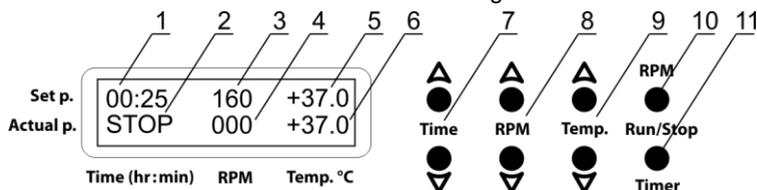

Figure 1. Control panel
- 5.3 The display turns on. The upper line shows the previously set time in hours and minutes (fig. 1/1), speed in RPM (fig. 1/3) and temperature in °C (fig. 1/5). The lower line shows current readings of the same parameters: the timer (indication STOP, fig. 1/2), speed (fig. 1/4) and chamber temperature (fig. 1/6) that automatically starts rising according to the set temperature.
- 5.4.1 **Setting time (Time).** Using the ▲ and ▼ **Time** keys (fig. 1/7) set the required working time interval in hours and minutes (increment 1 min).
- 5.4.2 **Setting speed (RPM/Shaker).** Using the ▲ and ▼ **RPM** keys (fig. 1/8) set the required shaking intensity in revolutions per minute (increment 10 rpm).
- 5.4.3 **Setting temperature (Temp.°C).** Using the ▲ and ▼ **Temp.** keys (fig. 1/9) set the required temperature (increment 0.1°C). The chamber heating starts automatically.
Caution! The chamber heating can only be stopped manually by reducing the temperature with the ▼ **Temp.** key (fig. 1/9) until the OFF indication appears in the in upper line of the **Temp.°C** display segment.
5.5.2 Press the **RPM Run/Stop** key (fig. 1/10, called the **Shaker Run/Stop** key on **ES-20/60**). The platform starts rotating and the timer starts counting the time interval, with 1-minute precision.
5.6 **Finishing the program.** After the set time elapses, the platform motion stops and the display shows a flashing reading STOP (fig. 1/2) accompanied by a repetitive sound signal until the **RPM** or **Shaker Run/Stop** key is pressed.
5.7 If the working time is not set and the timer in the upper line (fig. 1/1) shows 00:00, pressing the **RPM** or **Shaker Run/Stop** key starts continuous operation of the unit. The **Time** segment of the display shows an OFF indication in the upper line (fig. 1/1) and a countdown timer in the lower line (fig. 1/2). Pressing the **RPM** or **Shaker Run/Stop** key stops the platform motion.
Caution! At the end of the set time, platform movement is stopped automatically, but heating can only be stopped manually by reducing the temperature with the **▼ Temp.** key (fig. 1/9) until the OFF indication appears in the in upper line of the **Temp.°C** display segment.
5.8 The timer can be restarted during the unit operation if necessary. Press the **Timer Run/Stop** key twice (fig. 1/11), first time – to stop the timer, second – to restart it.